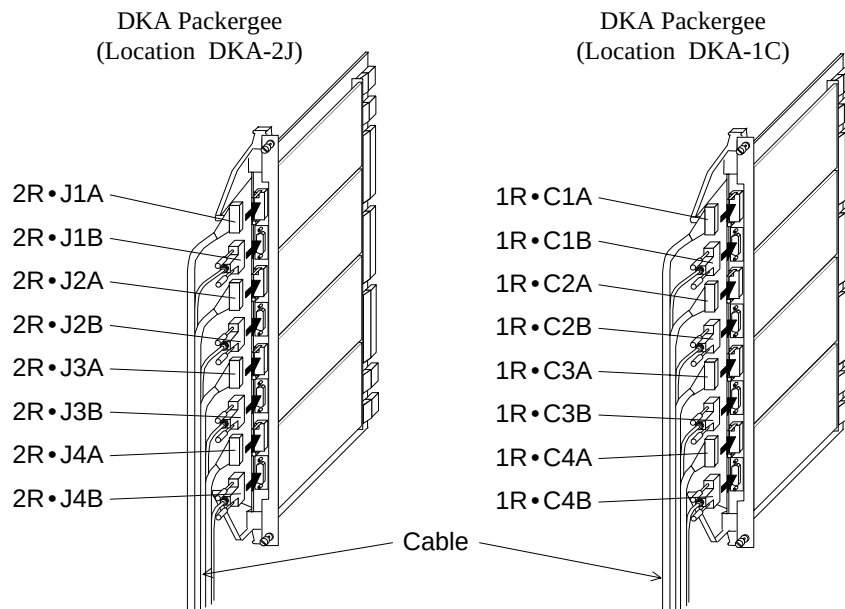

Fig.3.11.5-9 Connection of cable (Add.1)
a. Connect the cables to the sub-edge of PCBs. (Refer to Fig. 3.11.5-9.)